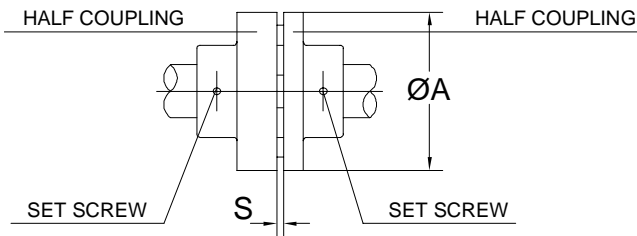

Fig. 11
- 5 - With a proper spacer check the distance between the two coupling halves. The gap value "S" should be as listed on table 2 or as given by the coupling manufacturer. In the event an adjustment is necessary, loosen the set screws on the coupling half and with a screw driver move the coupling half to attain the gap "S" (see fig. 11). Then tighten the set screw and rotate the rotor by hand to make sure, once more, that there is no obstruction.